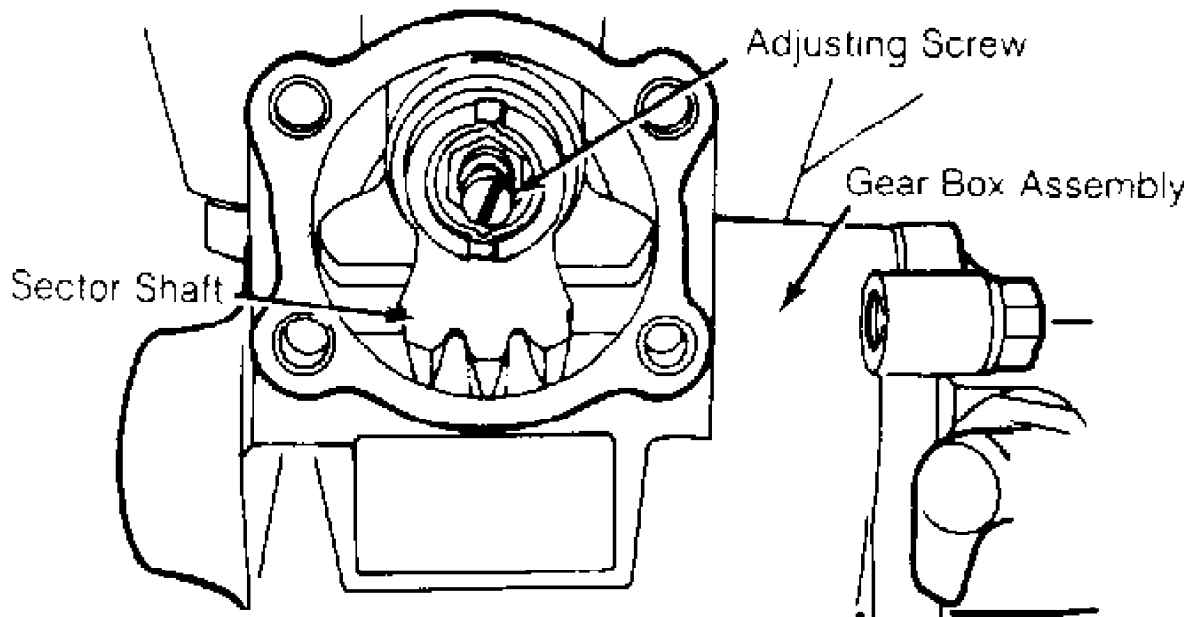

Fig. 4: Removing Sector Shaft
4) Rotate stub shaft into straight-ahead position. Remove sector shaft from gear assembly. See Fig. 4. Hold sector shaft in straight-ahead position when removing it from gear assembly.
5) If hose was removed, install hose fitting to valve housing with a new "O" ring. Tape sector shaft spline to protect seal rings. Install sector shaft while aligning sector and rack in the straight-ahead position. See Fig. 4.